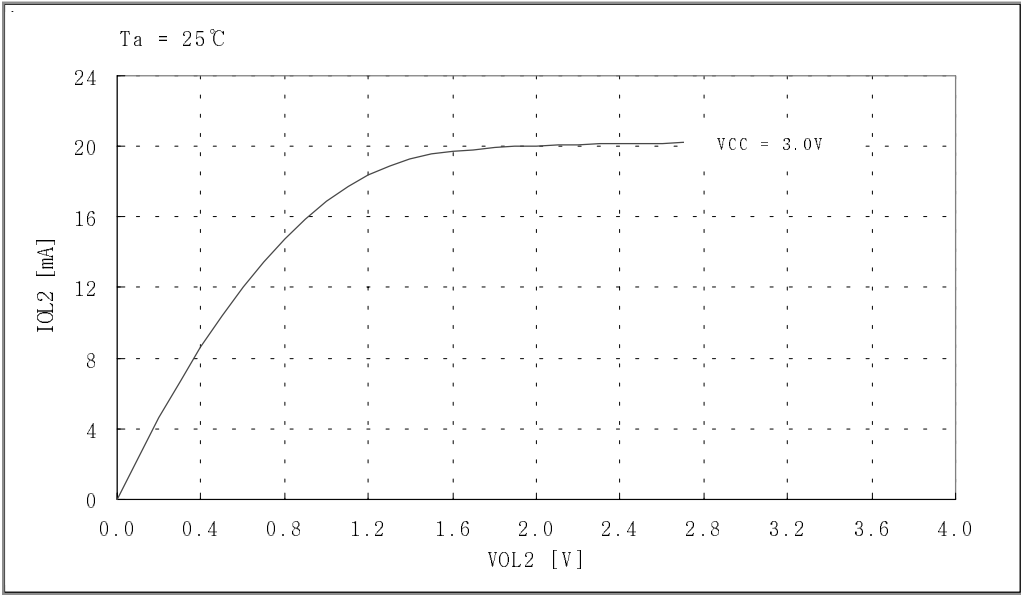

Fig 7-1. IOL2 vs. VOL2 Graph. (D, R Port)
*1 Refer to < Fig.7-1 I_{OL2} vs. V_{OL2} Graph >